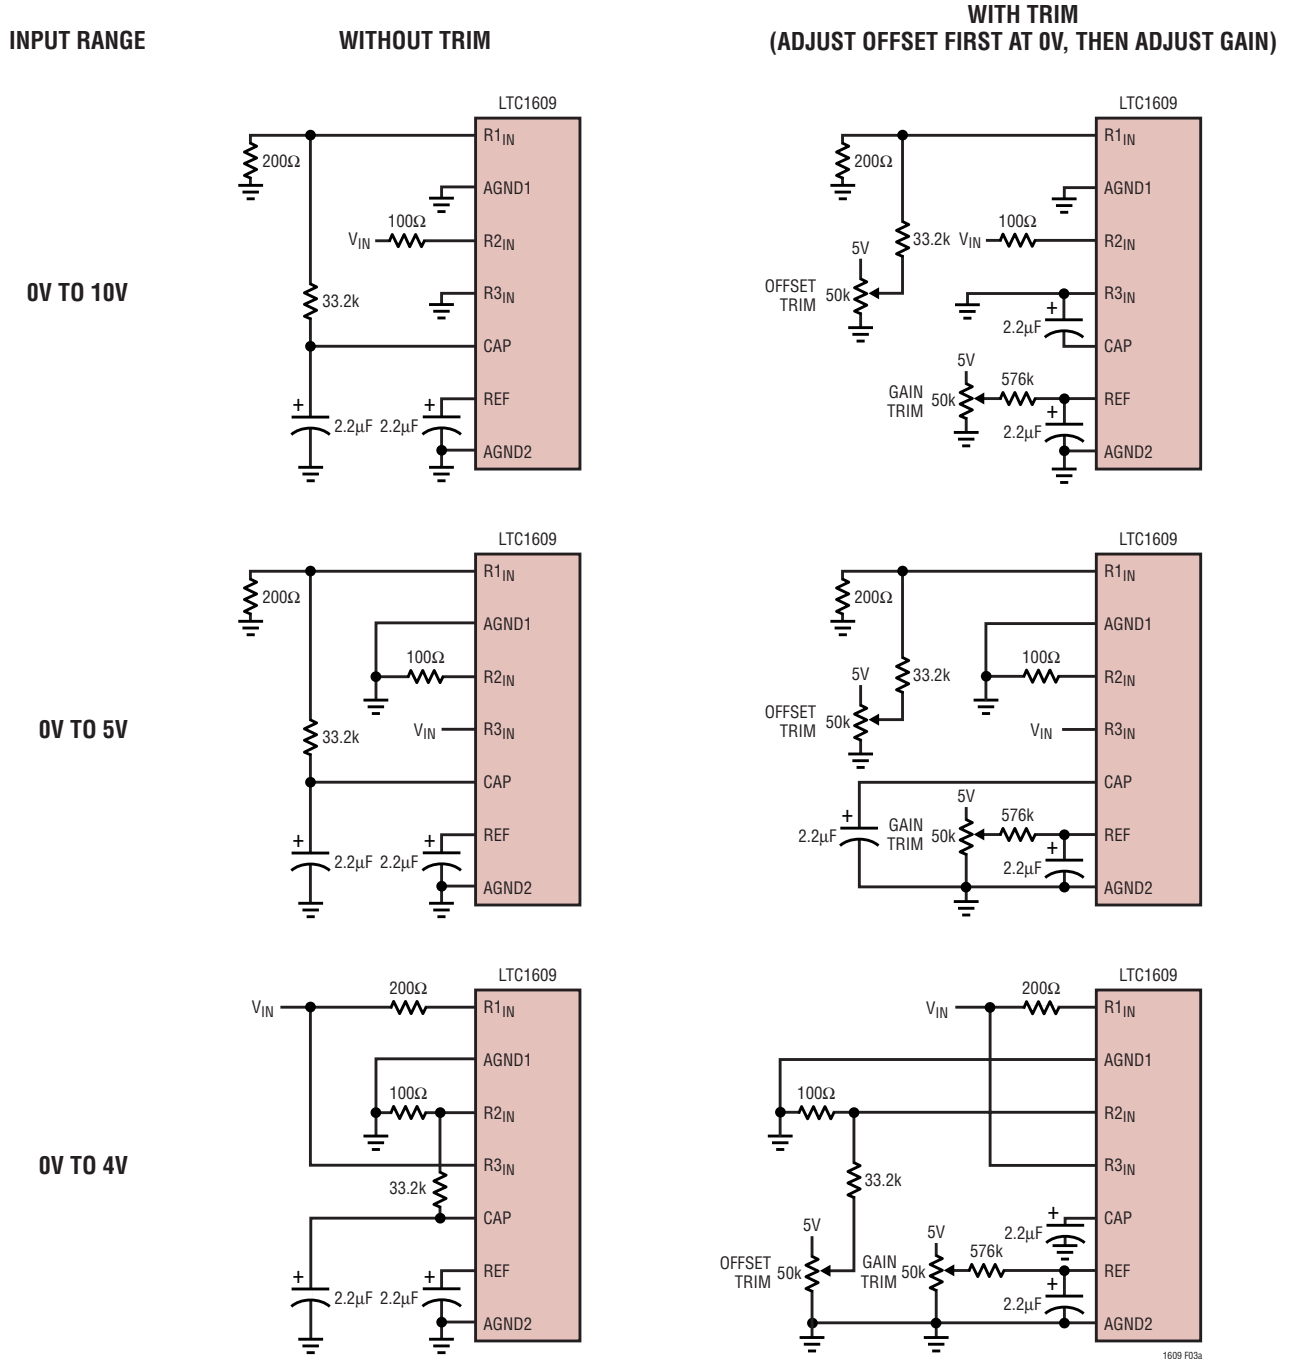

Figure 3a. Offset/Gain Circuits for Unipolar Input Ranges
**Note 12:** As measured with fixed 1% resistors shown in Figures 3a and 3b. Adjustable to zero with external potentiometer.
The LTC1609 offset and full-scale errors have been trimmed at the factory with the external resistors shown in Figures 3a and 3b. This allows for external adjustment of offset and full scale in applications where absolute accuracy is important. The offset and gain adjustment circuits for the six input ranges are also shown in Figures 3a and 3b. To adjust the offset for a bipolar input range, apply an input voltage equal to  $-0.5LSB$  where  $1LSB = (+FS - -FS)/65536$  and change the offset resistor so the output code is changing between 1111 1111 1111 1111 and 0000 0000 0000 0000. The gain is trimmed by applying an input voltage of  $+FS - 1.5LSB$  and adjusting the gain trim resistor until the output code is changing between 0111 1111 1111 1110 and 0111 1111 1111 1111. In both cases the data is in two's complement format ( $SB/\overline{BTC} = LOW$ )
Table 1a. Analog Input Range Connections for Figure 3a